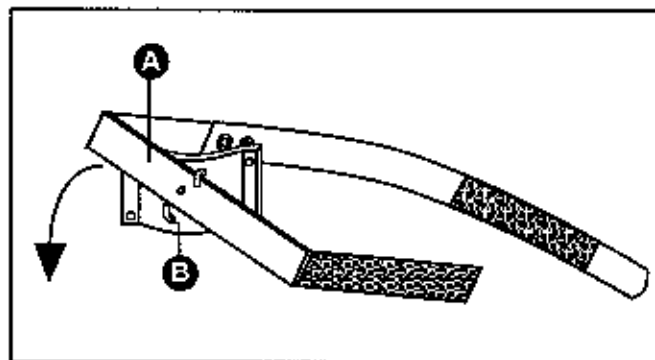

Figure 1-15
1. See Figure 1-15. Align adapter probe clip (A) with slots and pin on adapter probe (B), then turn counterclockwise to secure in place.